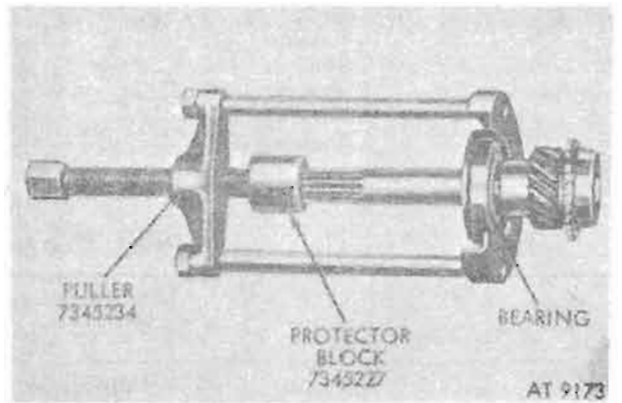

Figure 8-40. Removing bearing from input shaft.
d. Install puller (7345234) with protector block (7345227) as shown in figure 8-40, and pull bearing from input shaft.